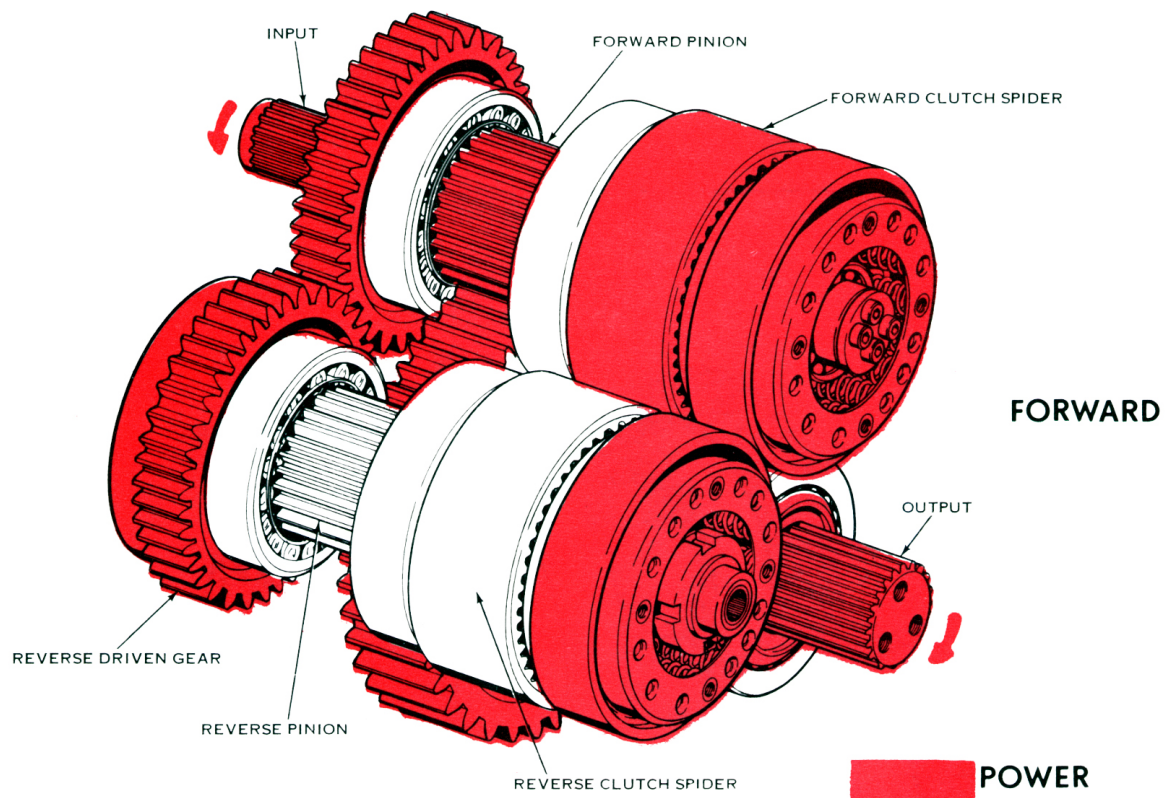

Figure 8. MG-509 Marine Gear Power Flow – Forward
B. Forward (Fig. 8). When in forward, all parts that rotated in neutral at engine speed are still turning. However, when the forward clutch is engaged the steel clutch plates make positive contact with the sintered-metal clutch plates. The external gear teeth of the sintered-metal clutch plates drive the clutch spider which is spline-connected to the forward pinion. Therefore, the forward pinion rotates in engine direction at engine speed when the forward clutch is engaged. The forward pinion is meshed with the output shaft gear which is keyed to the output shaft. The output flange is spline-connected to the output shaft and, therefore, the flange rotates in anti-engine direction when in the forward position. The output shaft and flange rotate at a reduced speed due to the ratio between the output shaft gear and the forward pinion.